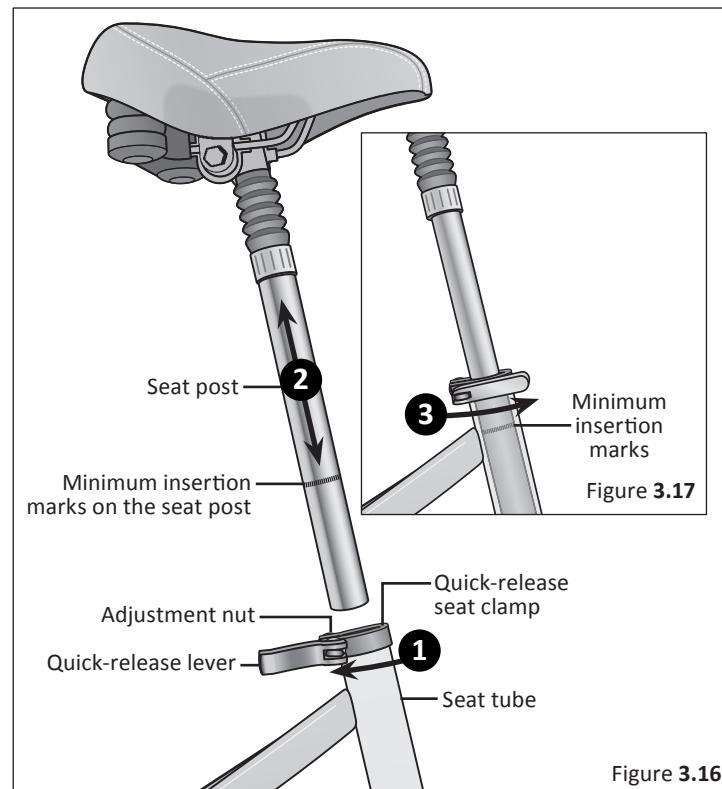

Figure 3.16
- ❶ Unlock the quick-release lever and insert the seat post into the seat tube. Figure 3.16
- ❷ Adjust the seat height up or down until the rider feels they have control of the bicycle and are comfortable.